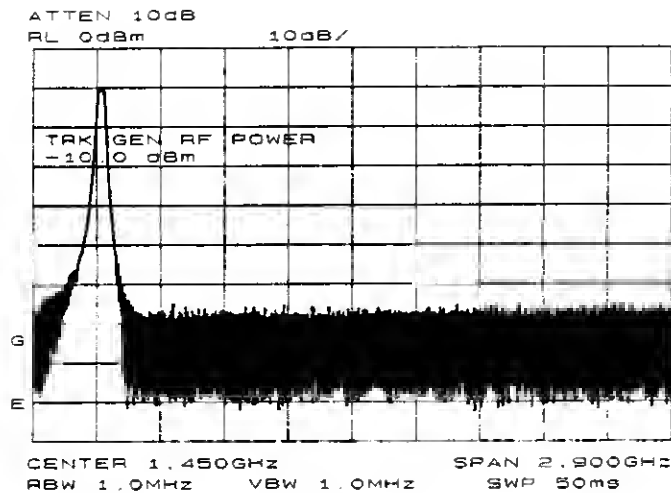

Figure 3-18. Tracking-generator output power activated.
1. Activate the tracking generator menu by pressing **AUX CTRL**, then **TRACKING GENERATOR**. The tracking-generator output power is then displayed in the active function block. Since the filter (DUT) is not particularly sensitive, an output power of -10 dBm should not damage it. To activate the tracking-generator power level, press **SRC PWR ON OFF** until ON is selected. See Figure 3-18.